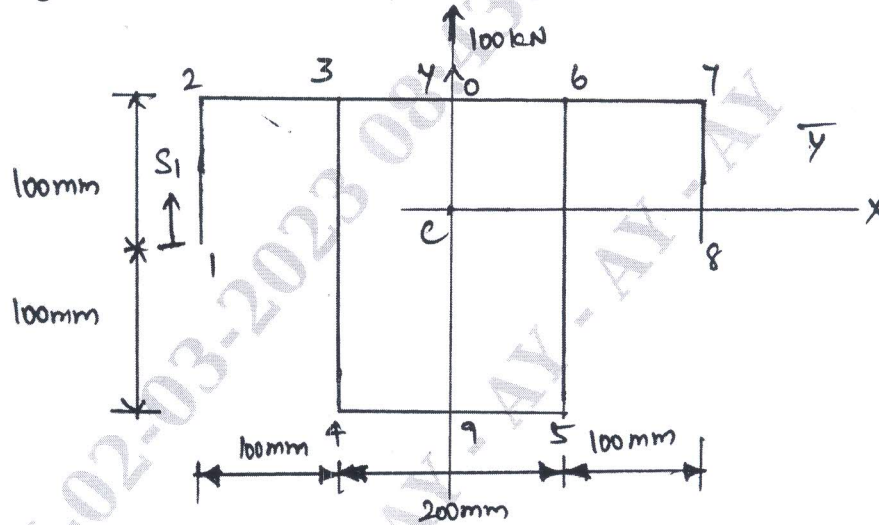

Fig Q4(b)
- b. Determine the shear flow distribution in the beam section shown in Fig Q4(b), when it is subjected to a shear load in its vertical of symmetry. The thickness of the walls of the section is 2mm throughout.